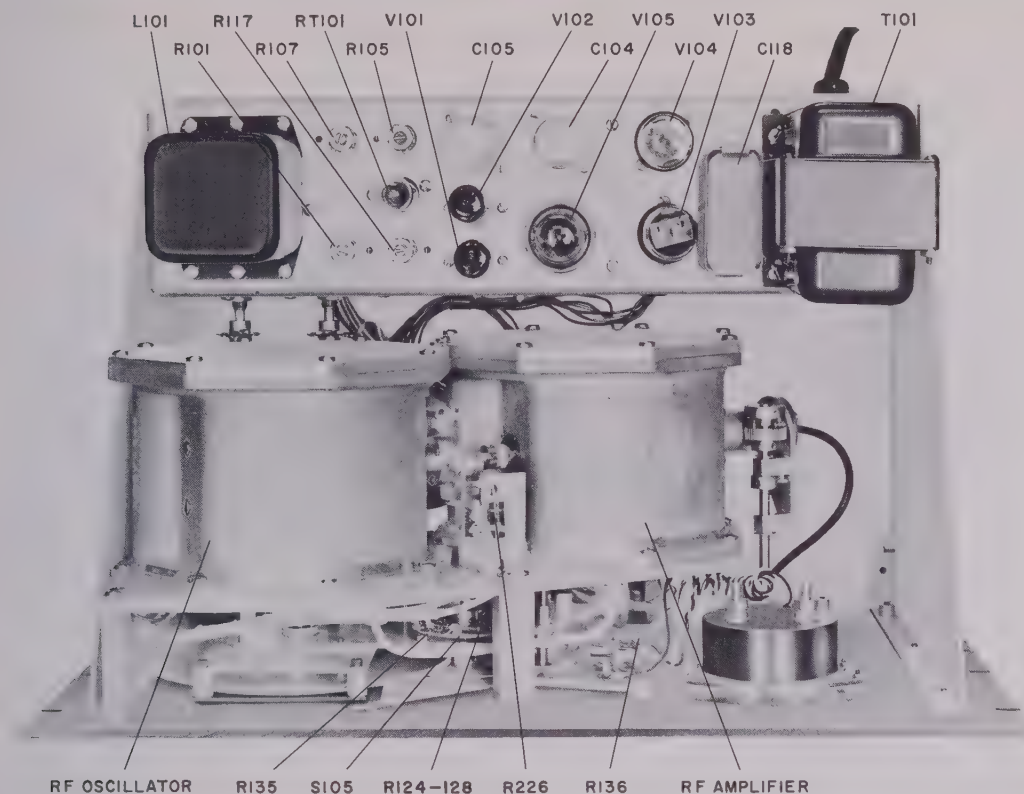

Figure 8. Type 225-A — Top View
Connect an ac VTVM (accurate to within $\pm 2\%$) to the AM terminals on the 225-A front panel. Set the AM SELECTOR to the 1000~ position and adjust R117 (Figure 8) until the VTVM indicates between 12.5 and 13 volts ac.
means of the BUCKING ADJ control, R107 (Figure 8).
3. Hold the RF — % AM switch on the 225-A in the % AM position and observe the Panel Meter on the 225-A. The meter should read 30% ($\pm 10\%$ of full-scale reading in 10-250 mc range, $\pm 15\%$ of full-scale reading in 250-500 mc range). Adjust by means of R101 (Figure 8).
the accuracy tolerance specified in Section I under "Specifications". Adjust by means of R101 (Figure 8).
4. Adjust by means of R105 (Figure 8).